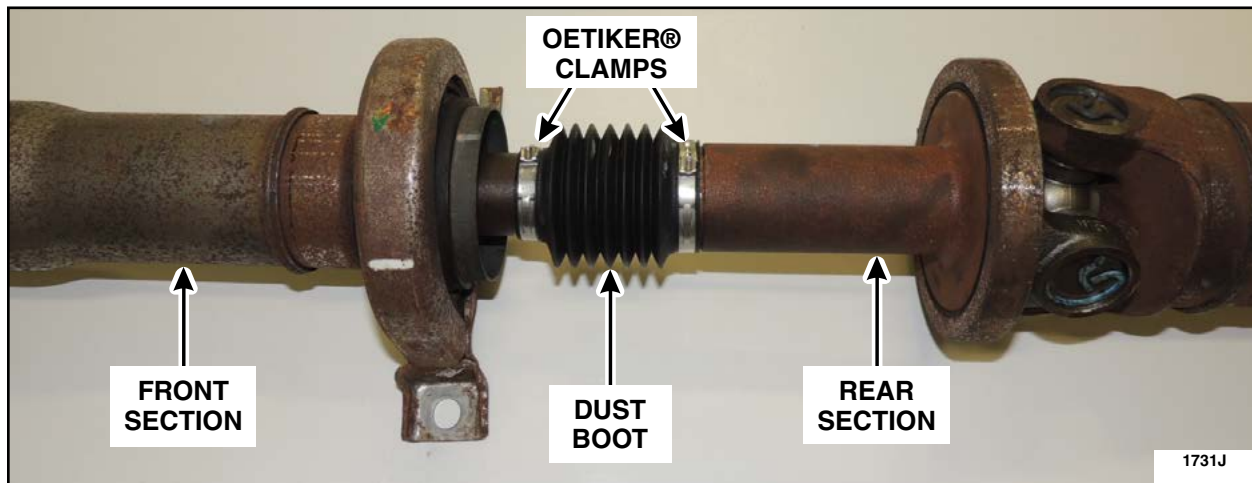

FIGURE 21
1. Separate the driveshaft front and rear sections at the driveshaft slip yoke. See Figure 21.
2. Install a *new* driveshaft front section onto the rear section. See Figures 21 and 22.